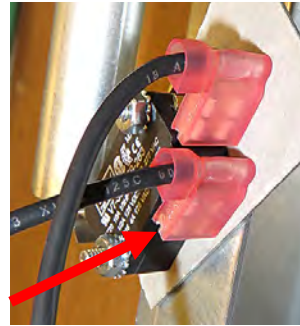

Figure 30
35. Connect pin-1 wire to the COM position of the top left switch (see Figure 30 and wiring diagram on last page).